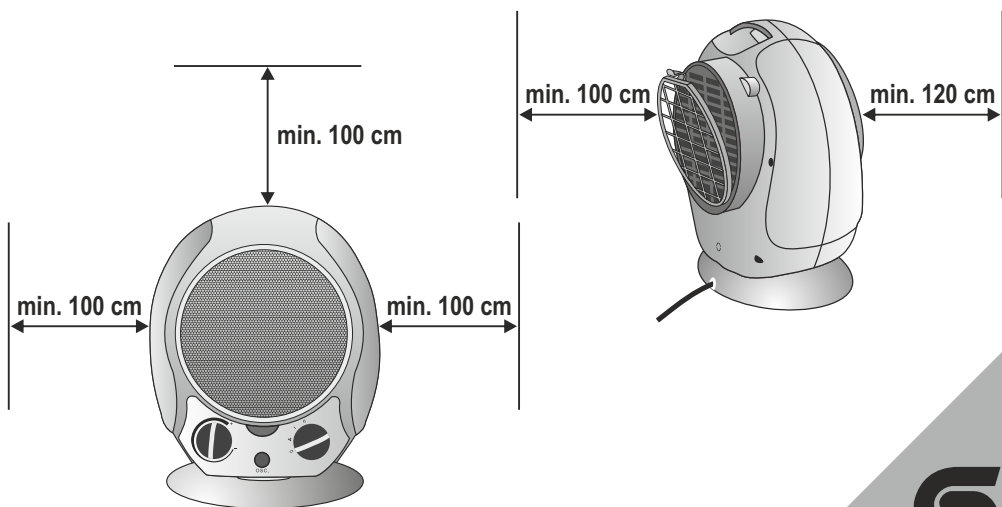

figure 2. • Abbildung 2 • 2. ábra • 2. obraz • figura 2. • 2. skica • 2. skica • 2. obrázek • rys. 2. • 2. slika
2. Never locate the unit directly in corners and observe the minimum mounting distances indicated in Figure 2. Always observe the health and safety regulations valid in the country of use.
3. Set the appliance on a stable and horizontal surface. The free flow of warm air must be ensured for proper operation, therefore, please note the minimum installation distances indicated in **Figure 2**.
4. Verify that the unit's mode selector (3) is in the OFF "0" position.